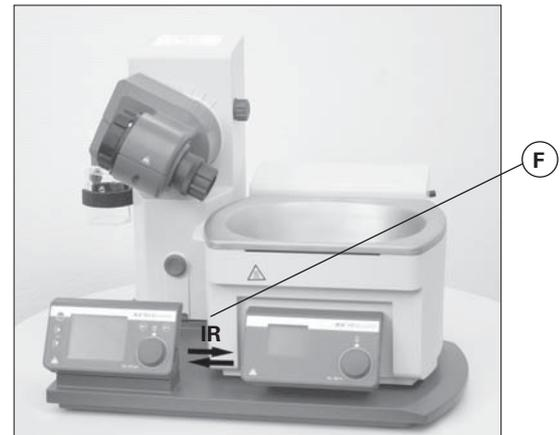

Fig. 8
- ☞ Place the heating bath on the stand of the rotation drive and push it into the left position (fig. 8).